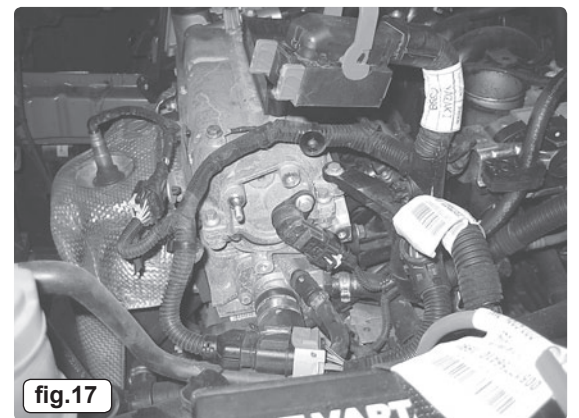

fig.17
- 3.4.3 It is essential that the camshaft sensor entry hole is positioned correctly relative to the camshaft. Therefore alignment of the camshaft cover must be accurately achieved using VS4954 Fixture (fig.17).